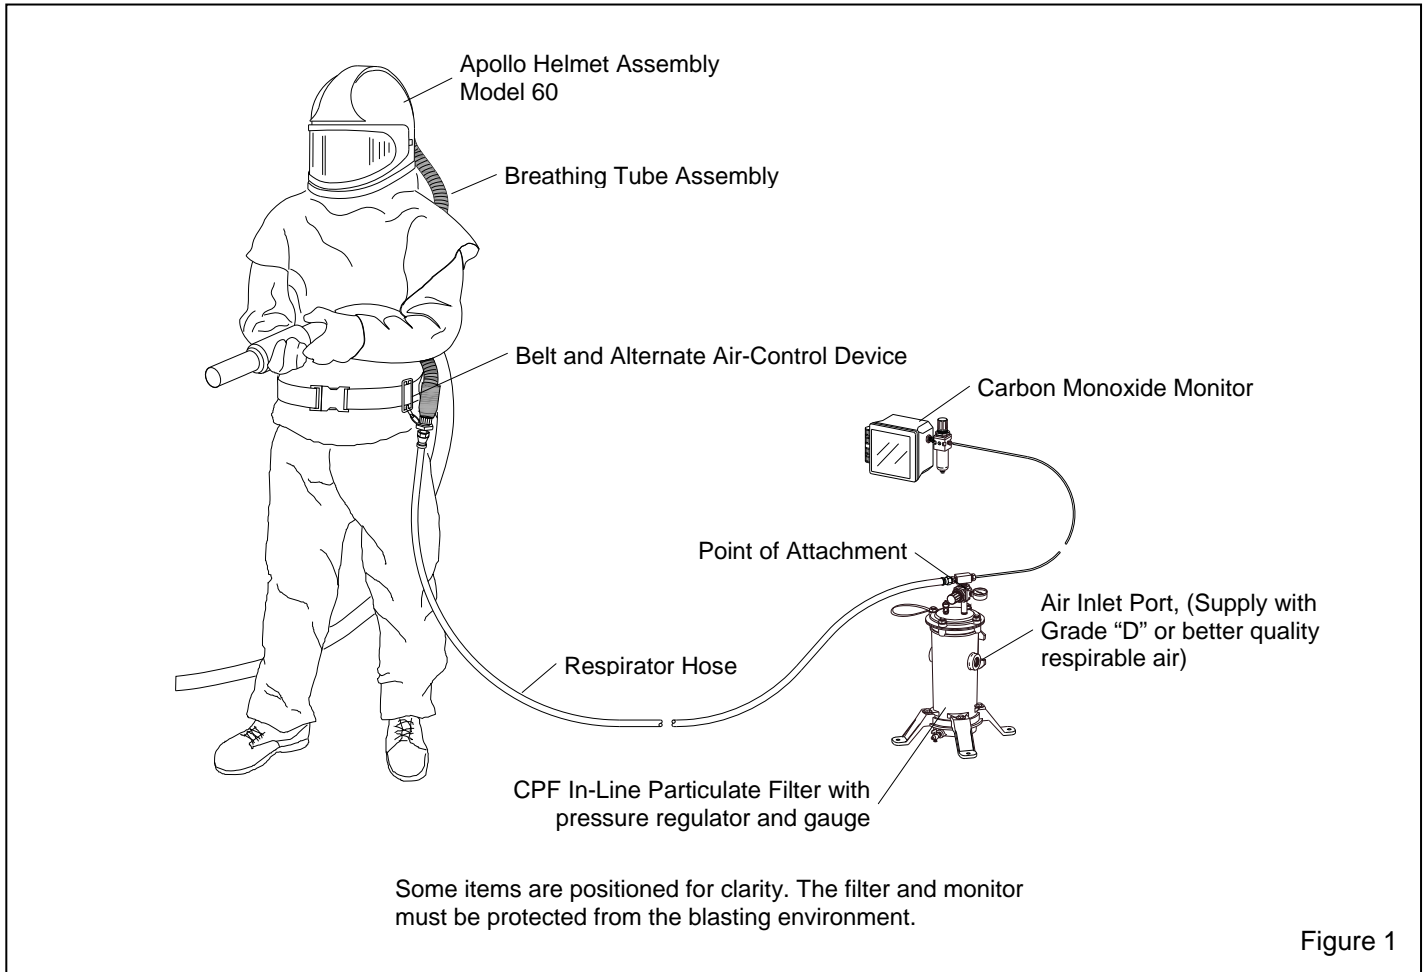

Figure 1
4.4.1.2 The Clemco CPF Inline Particulate Filter with regulator meets this requirement for a regulator and gauge, provided the inlet pressure does not exceed 150 psi. See typical installation, Figure 1.